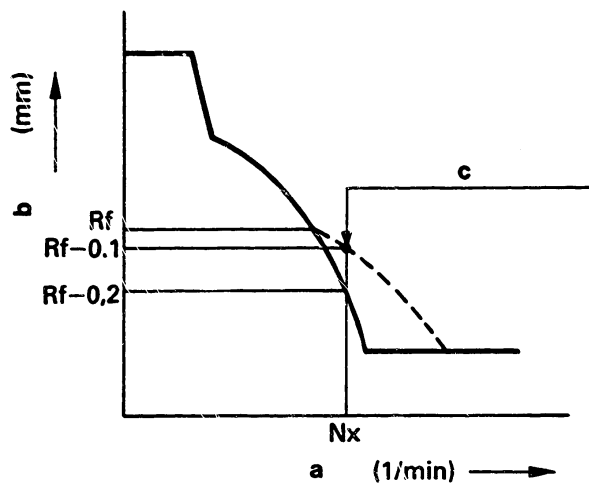

Fig. 85 Set position of damper spring
3. Screw in damper spring until control rack position corresponds with Rf minus 0.1 mm, and lock the spring at this point. (Figs. 85 and 86)